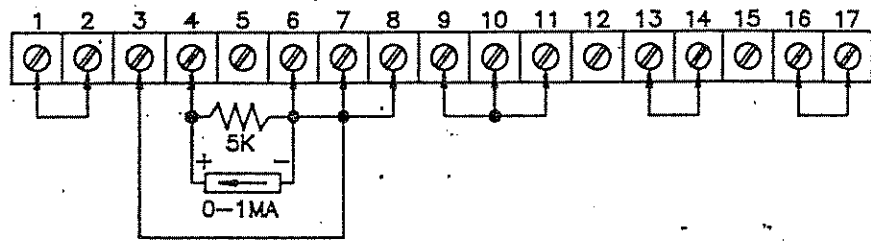

Figure 7. Remote Programming by External Current, Voltage Mode.
3.3.6 REMOTE PROGRAMING by EXTERNAL CURRENT (figures 7 & 8)